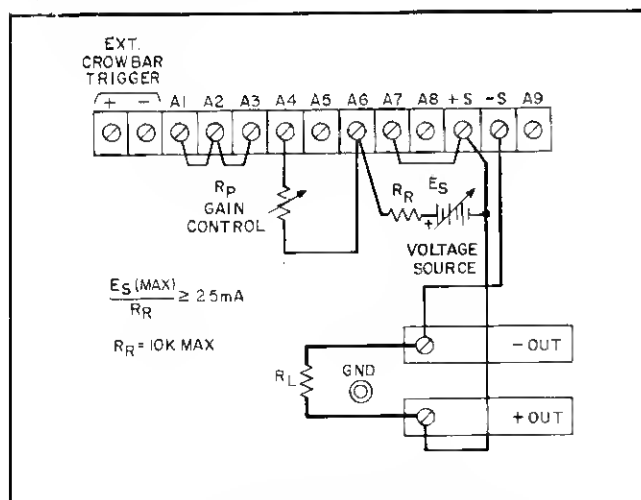

Figure 3-9. Voltage Programming of Output Current (Variable Gain)
**3-48 Constant Current Output, Voltage Input (Variable Gain).** In the remote programming arrangement shown in Figure 3-9, the series combination of external voltage source  $E_S$  and reference resistor  $R_R$  replaces the supply's internal current programming source. As a result, the voltage this external current source develops across gain control  $R_P$  becomes the reference against which the voltage drop across the output current sampling resistor is compared by the constant-current comparator. The relationship between  $E_S$  and the supply's output current depends on the resistance ratio  $R_P/R_R$  and on the constant-current programming coefficient ( $K_P$ ) of the supply. (These coefficients are given in paragraph 3-47.) The relationship between input voltage and output current is